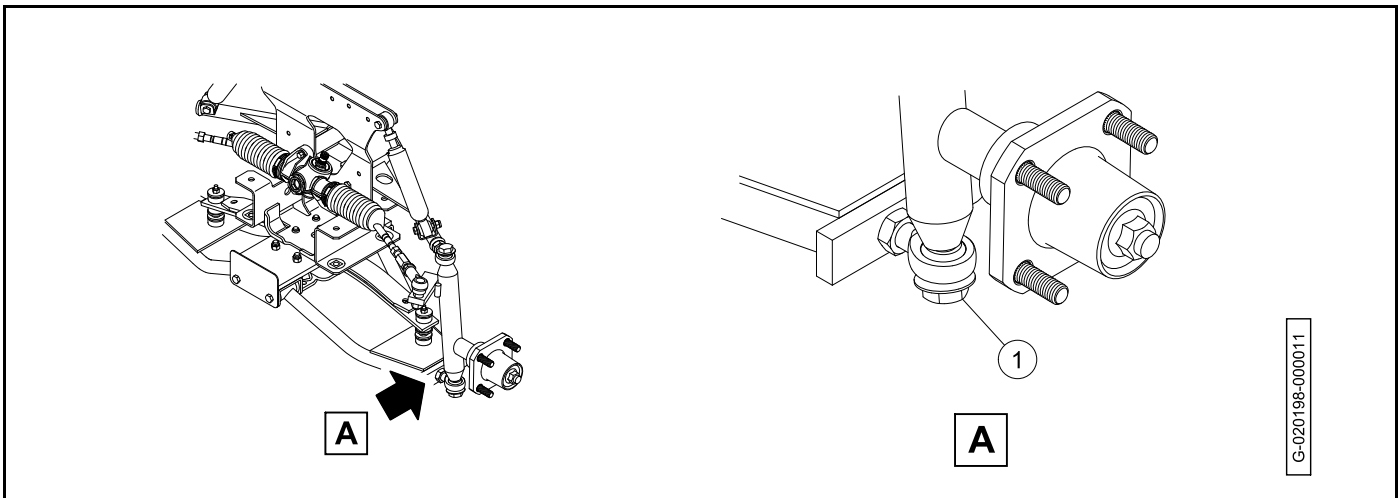

Figure 7-17
7. Add thread locker to the bottom hex-head bolt (1) that secures the lower a-arm to the bottom of the spindle and reinstall (**Figure 7-17, Page 7-14**). Snug hardware but do not torque until alignment is complete.